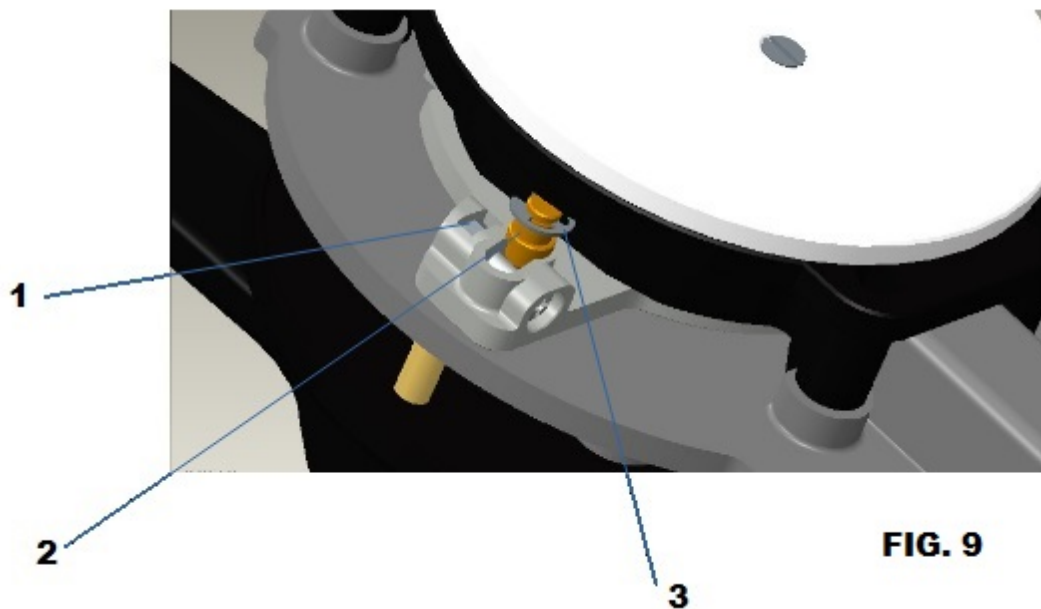

FIG. 9
1. Insert the reversing pin **(2)** (**Fig.9**) into the eyelet of the control cable terminal and lock it with the saw **(3)** (**Fig.9**). The cable must be placed in seats E or F (**Fig.3**) according to the installation direction of the box.
2. Insert the reversing pin into the slot (**Fig.9**) and position it in position "C" (towards the inside) or "D" (towards the outside) according to the required travel (**see Fig. 3**).
3. Fix the pin with the M4x18 screw **(9)** and the M4 bolt to be inserted in 1 (**see Fig.9**).